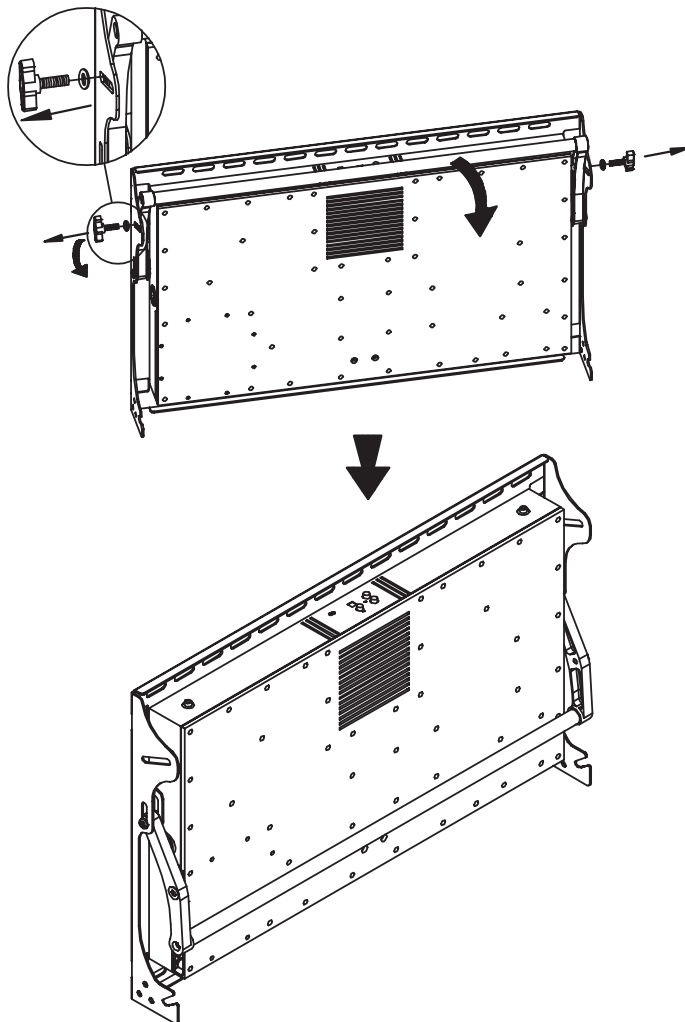

Figure 4 - Remove Handles
Remove the two T-screw handles (D) (Figure 4). Rotate the pole assembly downward to gain clear access to the top mounting holes.